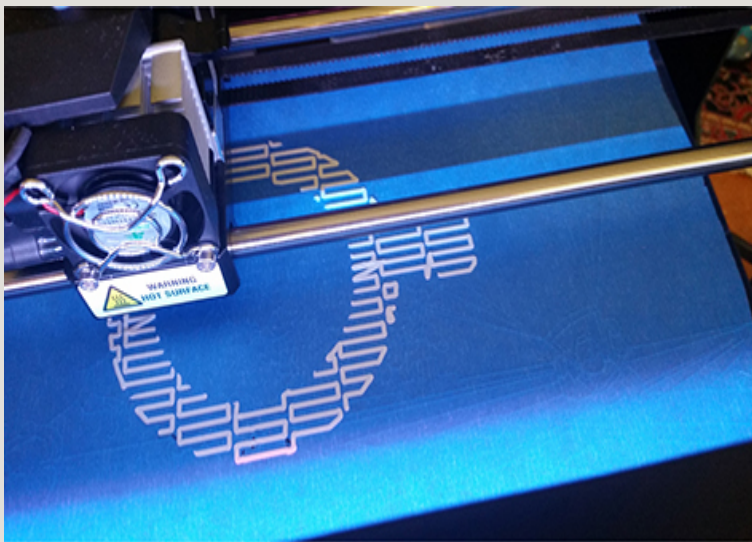

Figure 6-20 A raft is a thick, peel-away lattice that helps a model adhere to the build plate. The blue surface is painter's tape.
- **Raft.** This is a latticed, peel-away layer at the bottom of the model and at the bottom of supports to help them adhere to the build plate (Figure 6-20). Its layers print thicker than the model's layers. Putting a raft under a long, flat model also prevents its edges from curling if it cools unevenly during printing.